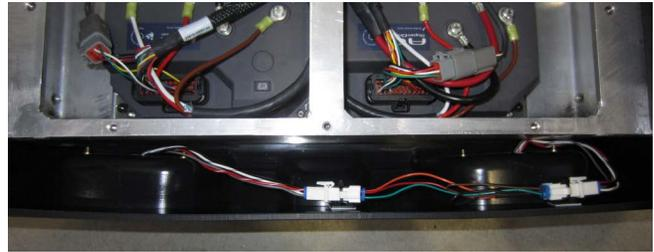

Figure 61: Rear Strobe Light Harnesses
3. Disconnect the Rear Strobe Light harness. See Figure 61.
3. Connect the Rear Strobe Light harness. See Figure 61.